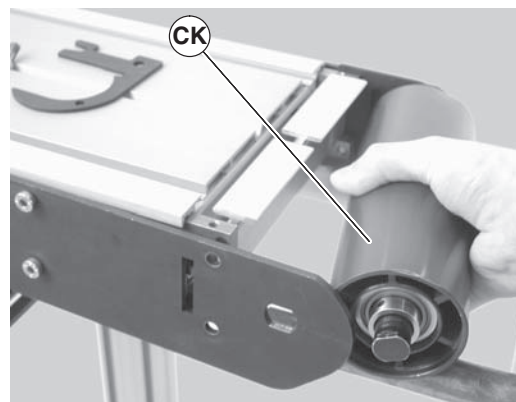

Figure 63
4. Slide the idler pulley assembly (Figure 63, item CK) out of the headplate on the opposite side.